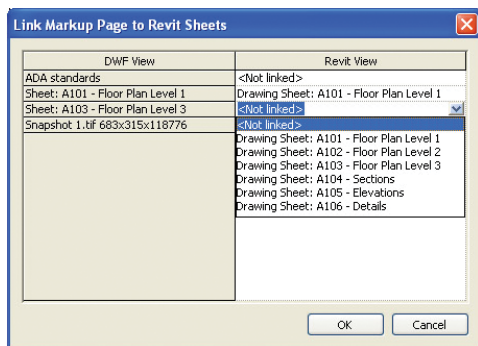

Figure 17
5. Within Revit you have the ability to edit the status and make notes to the markup. (Figure 17)